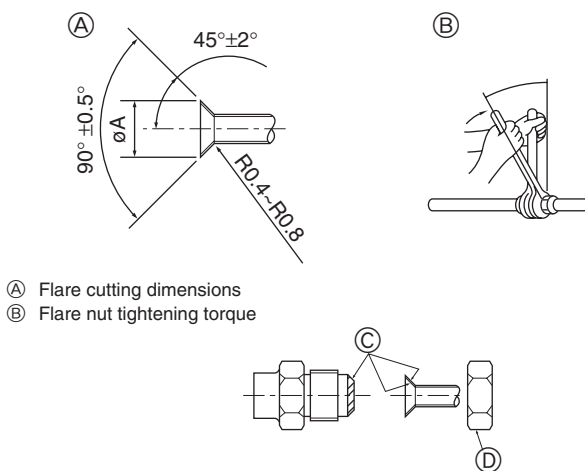

Fig. 5-1
### 5.2. Connecting pipes (Fig. 5-1)
(A) (Fig. 5-1)
(B) (Fig. 5-1)